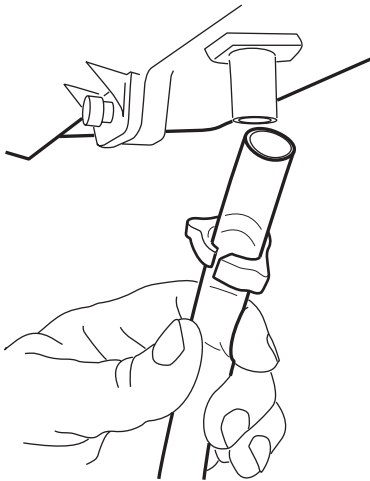

Fig. 30. Installing overflow tube.
1. Slide the 1/2 in. Overflow Clamp over the 3/8 in. inside diameter, 1/2 in. outside diameter Overflow Tube. See Fig. 30.